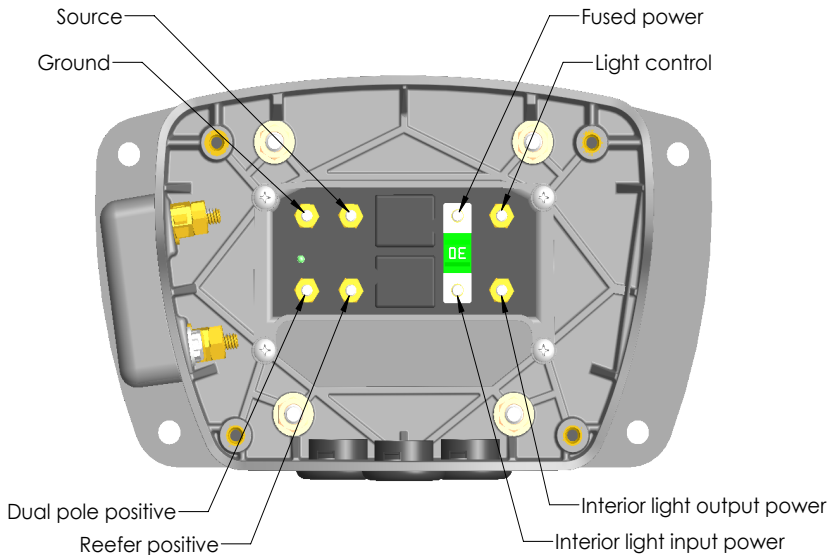

Figure 1
Step 2: Terminate the positive input with a #10 ring terminal and connect to the Interior light input power stud inside the nosebox (see Figure 1).
Step 3: Terminate the negative input with a #10 ring terminal and connect to the Ground pin inside the nosebox (see Figure 1).